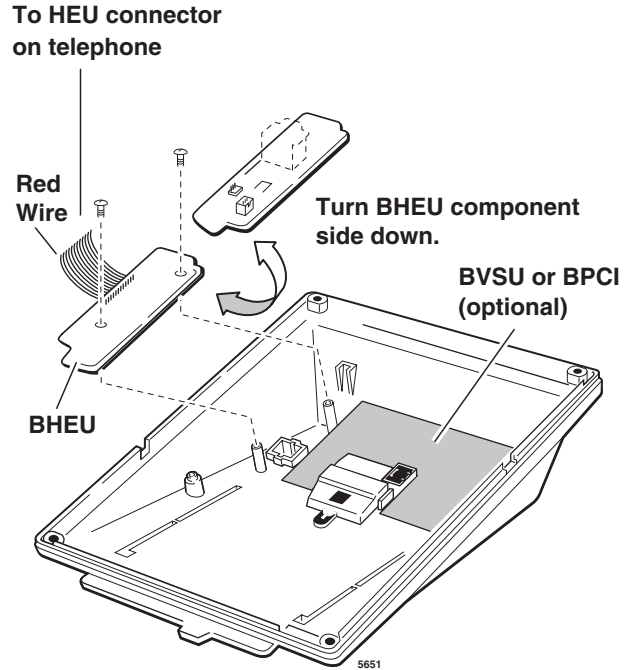

**Figure 11-4 BHEU PCB**
2. If you are connecting an ECM or Carbon-type headset to the BHEU, leave the BHEU jumper in the “AUTO” position (see Figure 11-4).